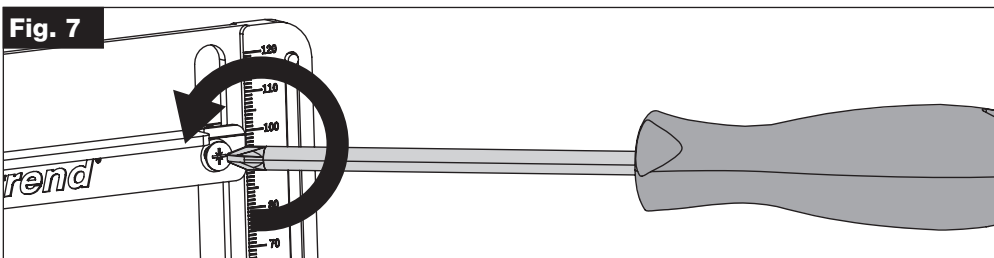

Fig. 8
- Calculate the required hole position of the handle/knob relative to the top/bottom of the door/drawer, and move the Long Guide accordingly (Fig. 8).